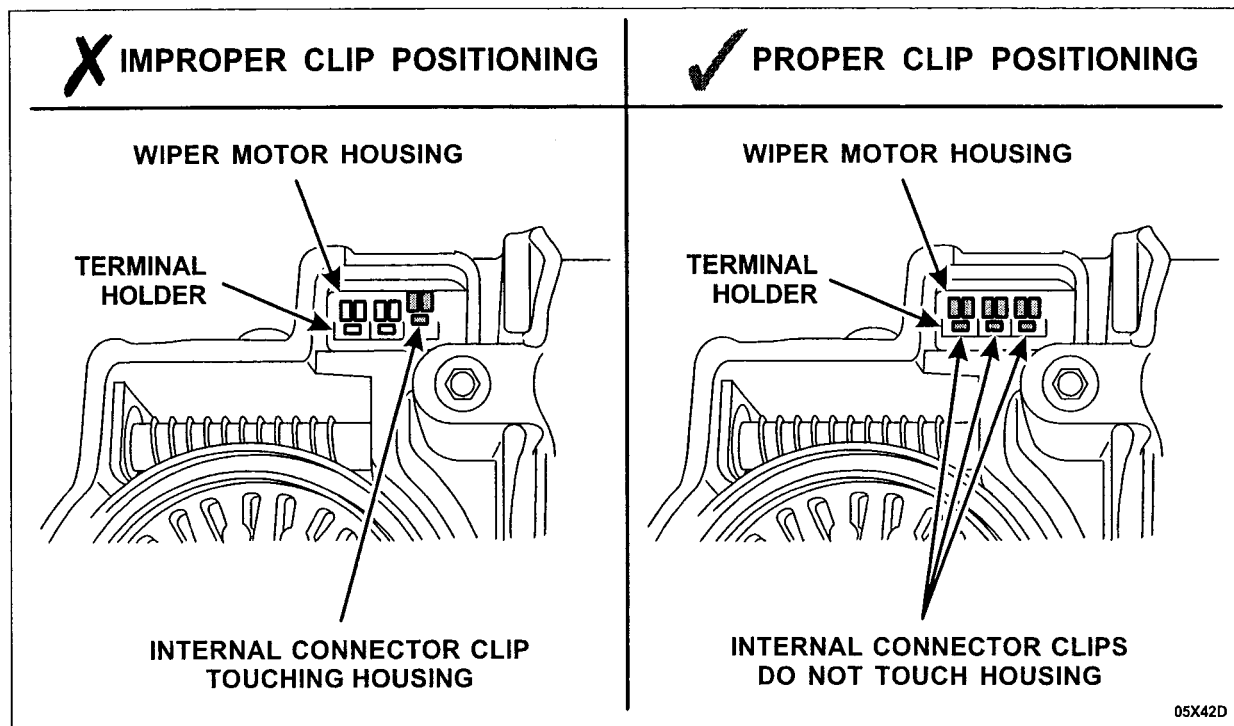

FIGURE 4
1. Inspect the three (3) internal electrical connector clips. **All three (3) clips MUST be aligned against the plastic terminal holder.** If any of the clips are misaligned or touching the motor housing, they must be straightened and positioned as shown in the illustration. See Figure 4.